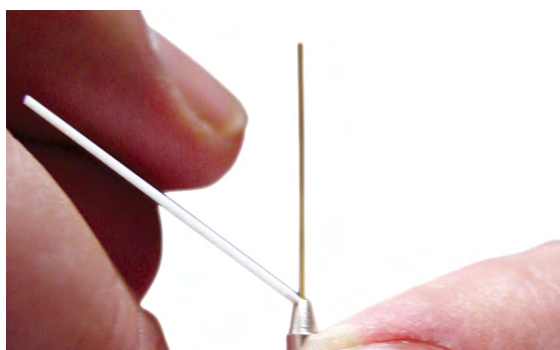

Figure 12.
- 2 Check the column end. It should be square and free of cracks. If needed, trim it. See Figure 12.